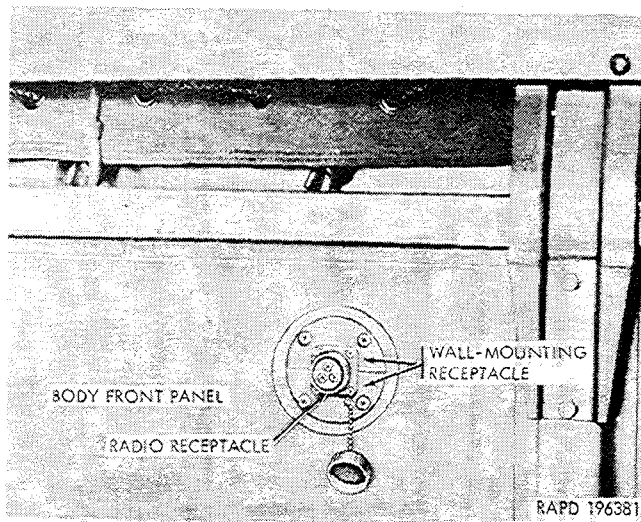

Figure 2-57. Radio receptacle in body front panel.
(1) Disconnect the ground cable from the negative (—) post of the outer battery, and remove the radio receptacle cable from the terminal.
(2) Disconnect the other receptacle cable terminal from the positive (+) terminal of the inner battery.
(3) Disengage the cable from the cable clip in the driver's compartment.
(4) Remove the four small screws that secure the radio receptacle to the wall mounting receptacle (fig. 2-57) and pull the receptacle and cable from the mounting receptacle. Remove the four screws that secure the mounting receptacle to the body front panel, and remove the receptacle.
- (1) Thread the receptacle cables through the receptacle opening in the body panel and through the weatherseal in the cab rear panel.
- (2) Fit the two sections of the wall mounting receptacle on the body panel and install the four lockwasher screws. Position the radio receptacle (fig. 2-57) and install the four lockwasher screws, attaching the cover chain with one of the screws.
- (3) Connect the radio receptacle positive (+) cable terminal to the positive (+) terminal of the inner battery, and the negative (—) terminal to the negative (—) terminal of the outer battery.
- (4) Connect the ground cable to the negative (—) post of the outer battery.